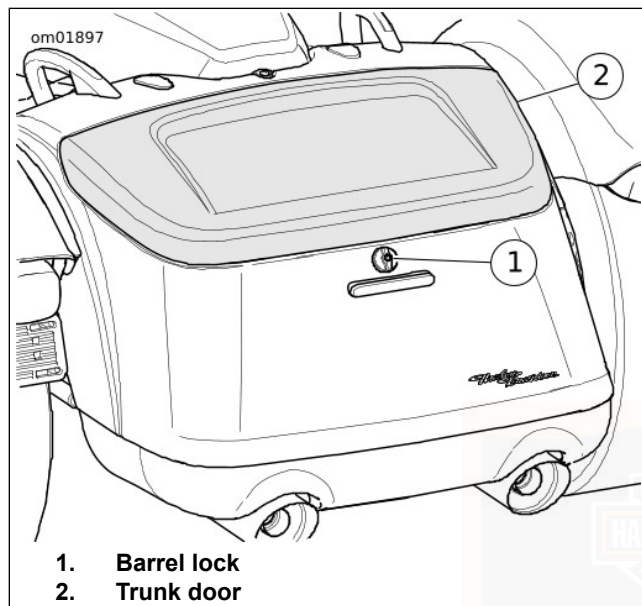

Figure 59. Trunk (FLRT/FLTRT)
- See Figure 59. Turn barrel lock clockwise to unlatch door. Open trunk door.